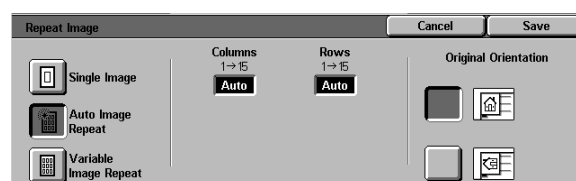

Figure 12: Auto Image Repeat detail screen
- **Auto Image Repeat** (Figure 12)